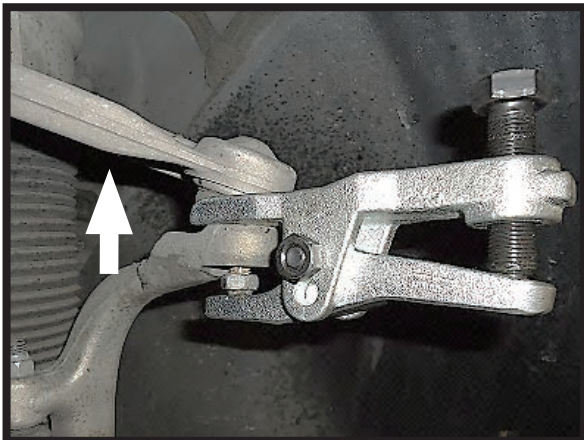

FIGURE 10-15
9. SEPARATE THE UPPER CONTROL ARM FROM THE SPINDLE ASSEMBLY. (FIGURES 10-15, 10-16)